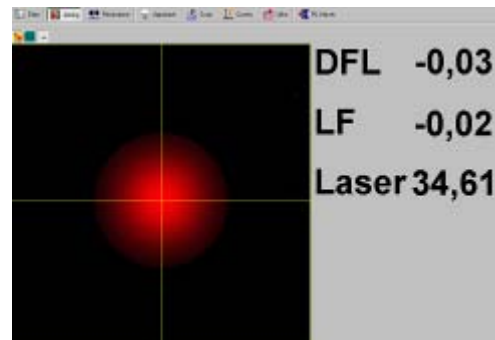

Fig. 2-55
- Using adjustment screws 3 and 4 (Fig. 2-39) center the light spot on the photodiode indicator (Fig. 2-55); at the same time the **VER.DFL (DFL)** and **LAT.DFL (LF)** readings should be close to zero while the total signal **LASER** should read the maximum value;